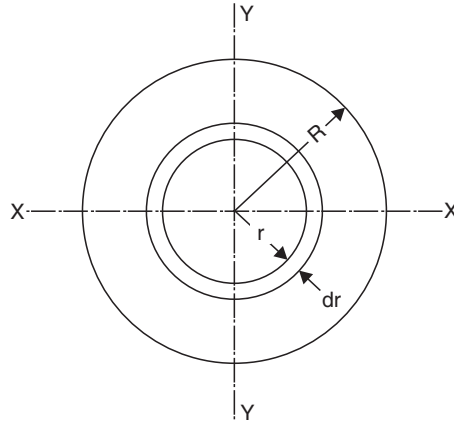

Fig. 5.12
**4. Moment of inertia of a circular lamina.** Fig. 5.12 shows a circular lamina of radius  $R$ . The lamina may be considered as consisting of infinite number of elemental concentric rings. Consider one such elemental ring at a radius  $r$  and having a thickness  $dr$ .